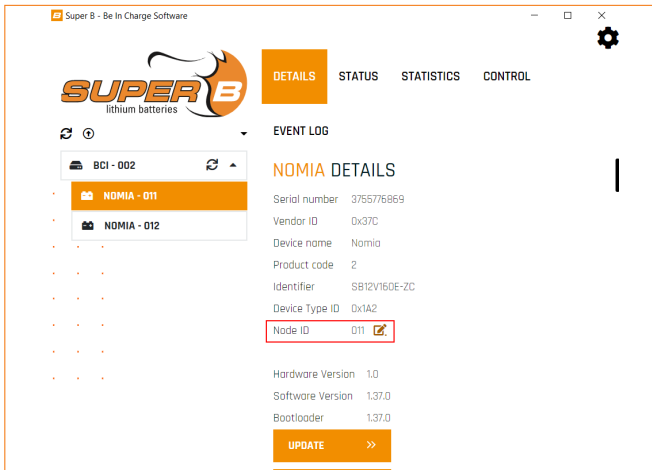

Figure 19. Change the battery 'Node ID' of the first Li-ion battery
4. Navigate to the 'Details' page and make sure to change the battery node ID of the first battery to 11 (Figure 19 and 20)